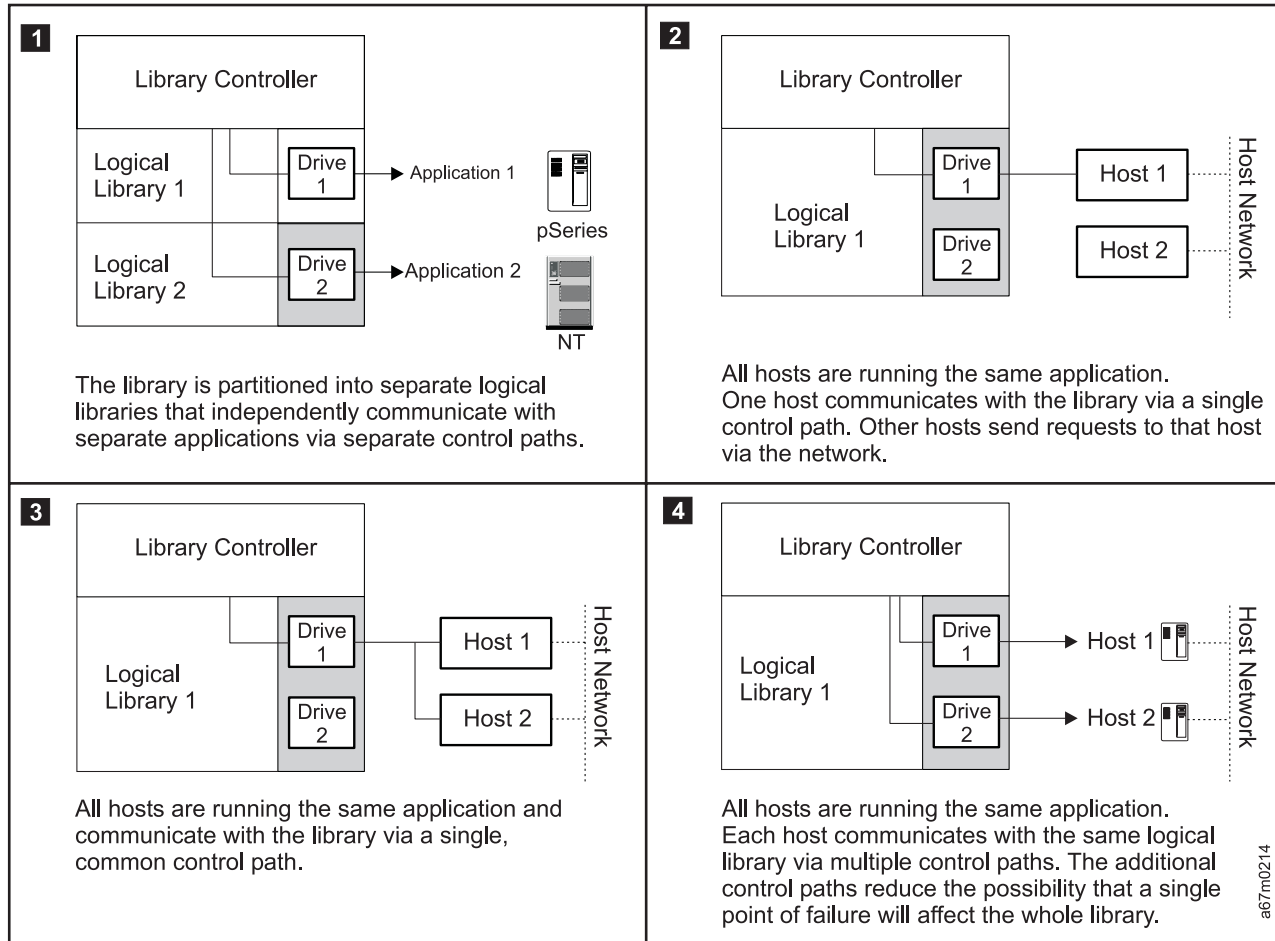

Figure 24. Examples of configurations. Lines from one or more drives to the library controller represent control paths.
- Configure the library so that it is partitioned into separate logical libraries that independently communicate with separate applications through separate control paths. This configuration (see example **1** in Figure 24 on page 37) requires no special capabilities from the server or application. (For more information, see "Using Multiple Logical Libraries" on page 33.)
- Configuring one server (host) to communicate with the library through a single control path; all other servers send requests to that server through a network (see example **2** in Figure 24 on page 37). This configuration is used by Tivoli® Storage Manager (TSM).
- Configuring all of the servers to communicate with the library through a single, common control path (see example **3** in Figure 24 on page 37). This configuration is used in high-availability environments such as IBM's High Availability Clustered Microprocessing (HACMP™) and Microsoft's Systems Management Server (SMS) and Clustered Server Environments. Multi-initiator configurations are only supported by certain adapters and independent software vendors (ISVs). Check with your ISV.
- Configuring a single logical library to communicate with multiple servers through multiple control paths. This configuration (see example **4** in Figure 24 on page 37) requires that you add control paths (see "Using Multiple Control Paths" on page 34). It is used by Backup Recovery and Media Services (BRMS).